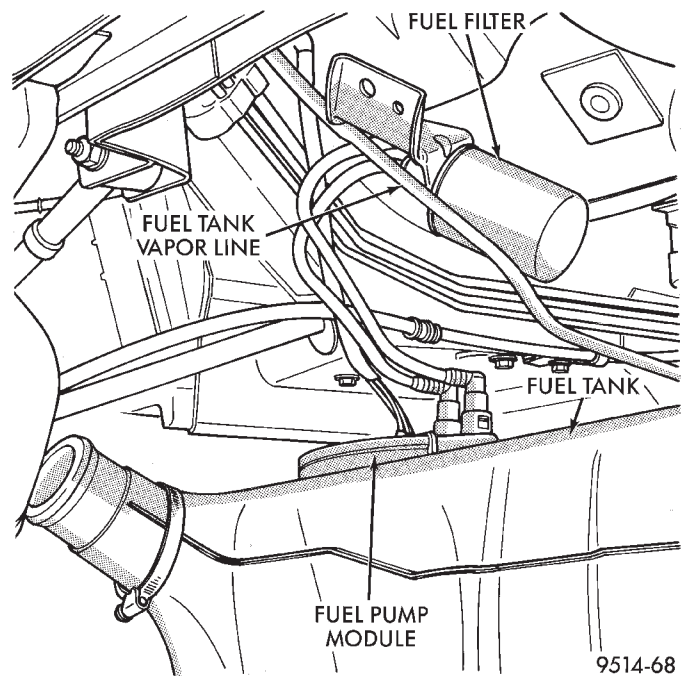

Fig. 35 Fuel Tank Removal
- (12) Disconnect fuel lines from fuel pump module. These are quick connect fittings (Fig. 35).
- (13) Remove hoses from EVAP canister.